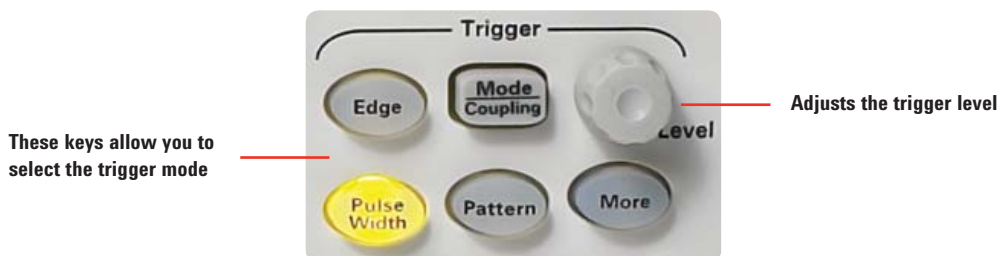

Figure 20. Front panel trigger control section on an Agilent InfiniiVision 5000 Series oscilloscope
**Pulse-width triggering** – Pulse width triggering is similar to glitch triggering when you are looking for specific pulse widths. However, it is more general in that you can trigger on pulses of any specified width and you can choose the polarity (negative or positive) of the pulses you want to trigger on. You can also set the horizontal position of the trigger. This allows you to see what occurred pre-trigger or post-trigger. For instance, you can execute a glitch trigger, find the error, and then look at the signal pre-trigger to see what caused the glitch. If you have the horizontal delay set to zero, your trigger event will be placed in the middle of the screen horizontally. Events that occur right before the trigger will be to the left of the screen and events that occur directly after the trigger will be to the right of the screen. You also can set the coupling of the trigger and set the input source you want to trigger on. You do not always have to trigger on your signal, but can instead trigger on a related signal. Figure 20 shows the trigger control section of an oscilloscope's front panel.